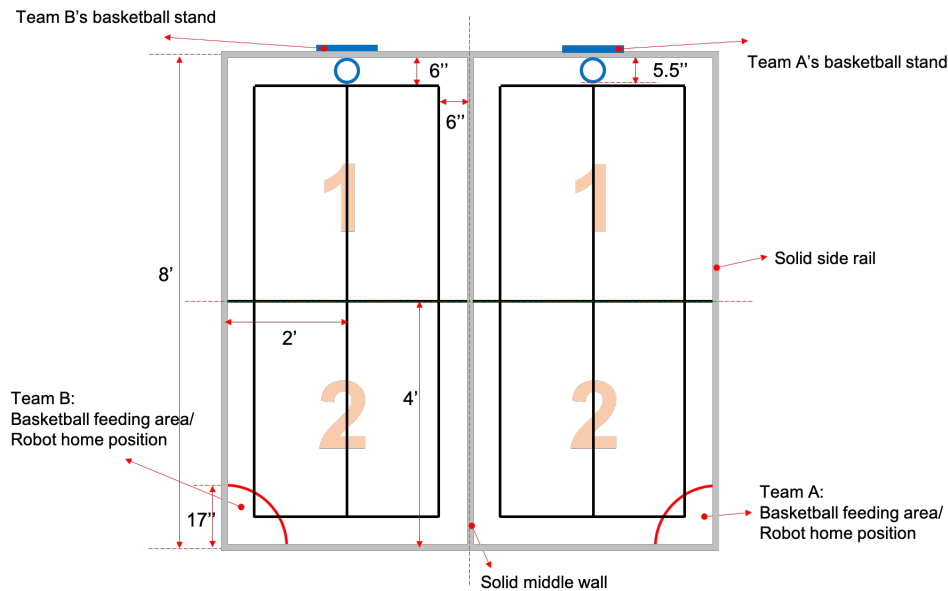
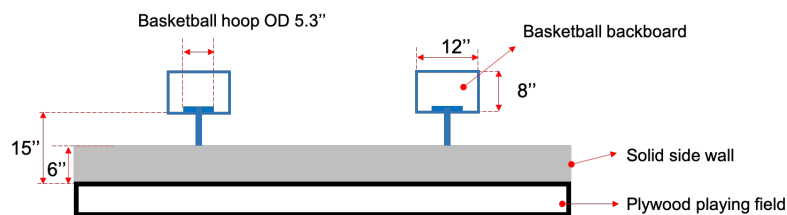

Figure 2: Top view of the playing field.
Figure 3: Front view of the playing field.
The playing field is a square plywood surface (8 ft. x 8 ft.) that has been painted white. Side rails which are made of white foam board will be placed around the perimeter of the field to prevent robots from rolling off the field, shown as bold solid gray lines in Fig. 2. These rails extend vertically upwards with 6 inches beyond the plywood surface, but may not be perfectly perpendicular to horizontal plywood surface. The playing field is divided into left and right courts by a 3/16 inches thick middle wall which is made of white foam board. The middle wall is 6 inches above the plywood surface. Each court is further divided into two regions, marked by 1 and 2 in Fig. 2. The 1 and 2 markings are used to label the regions in this description, and are not marked on the playing field. Black lines in Fig. 2 present the lines on the plywood surface for robot navigation. These lines are physically created by using 3/4 inches width *black electrical tape*. Detailed dimensions of the playing field are shown in Fig. 2 and Fig. 3.
- The robot starts its match in a 17 in. radius quarter circle area. The quarter circle area is the home position, as shown in Fig. 2. The robot may face any direction at the start, as long as it remains within the home position. At the home position, one team member may briefly contact with the robot to initiate autonomous operation, such as push a button, or flip a switch. Thereafter, the robot must operate entirely on its own. If robot movement does not commence within 30 seconds after the start of the match, the team then forfeits the match, i.e. receives 0 score for the match. "Robot movement" includes any visible change in location, appearance, or configuration of the robot.